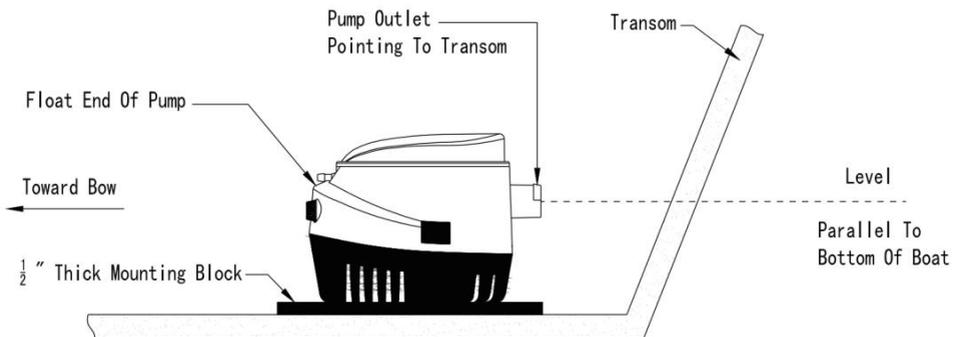

Figure 1
1. Make sure the hull thickness is at least 1/2" thick. If not, place a block of 1/2" marine plywood (slightly larger than the pump base) in the lowest part of the bilge. Be sure that the pump cover can be removed for cleaning in this position. Glue the plywood to the hull with a waterproof adhesive (epoxy, silicone adhesive, or fiberglass resin). See figure 1.
Be sure outlet nozzle is level. If pointed upward or downward, an airlock may form in the pump. (See Figure 1)
3. The float end of the pump must be level with or above the pump end (See figure 1). This prevents the pump from running out of water while the float is still high enough to activate the pump.
4. Mark location of the three (3) mounting holes with a pencil or scribe.